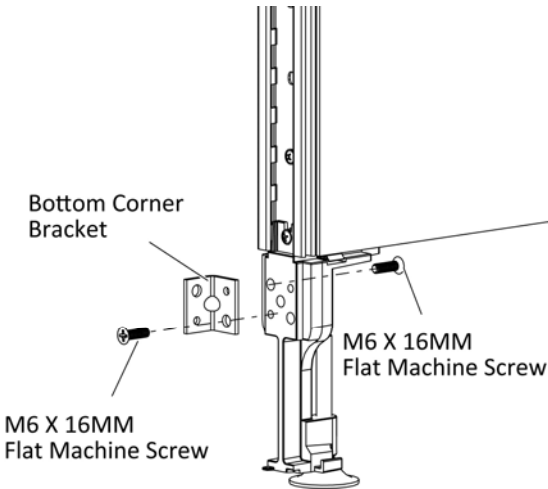

Figure 7
- 12. Securely fasten bottom corner bracket into the panel leg of the other short panel with two M6 X 16MM Flat Machine Screws, (Figure 7).